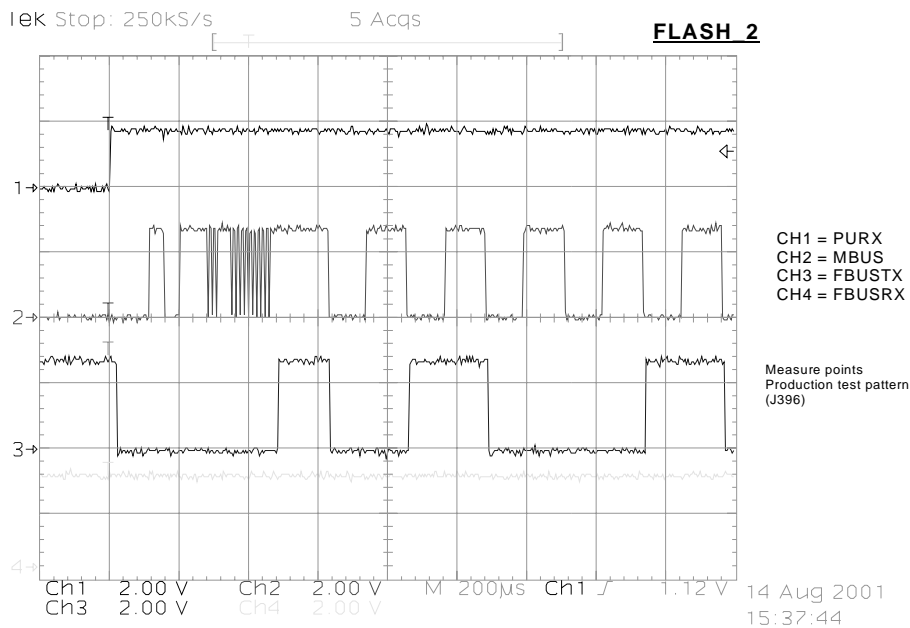
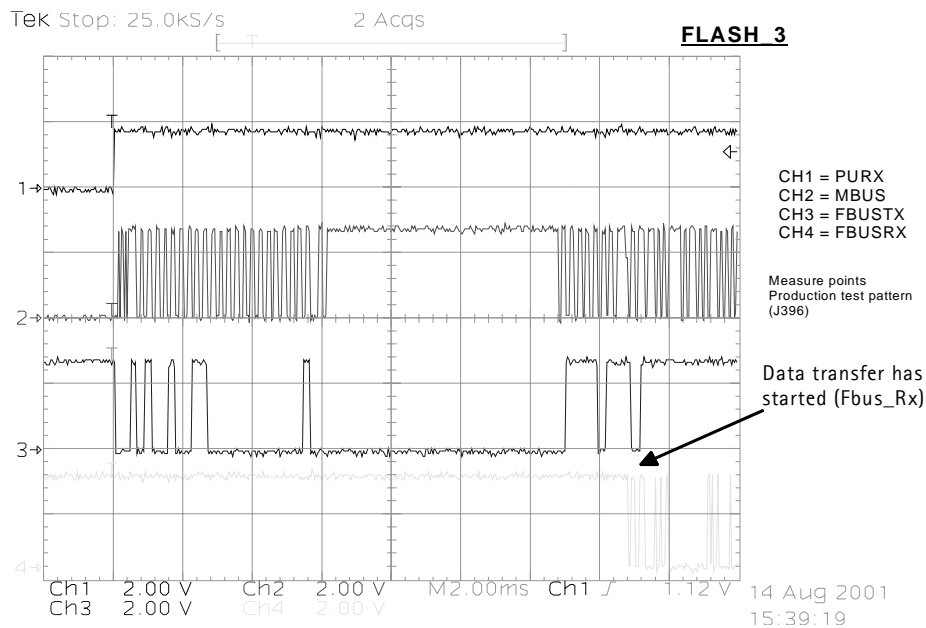

Figure 3: Flashing, continued
Figure 4: Flashing, continued
- This boot code asks MCU to report prommer phone's configuration information, including flash device type. Now prommer can select and send algorithm code to MCU SRAM (and SRAM/Flash self-tests can be executed). (See Figure 3 on page 8 and Figure 4 on page 9.)